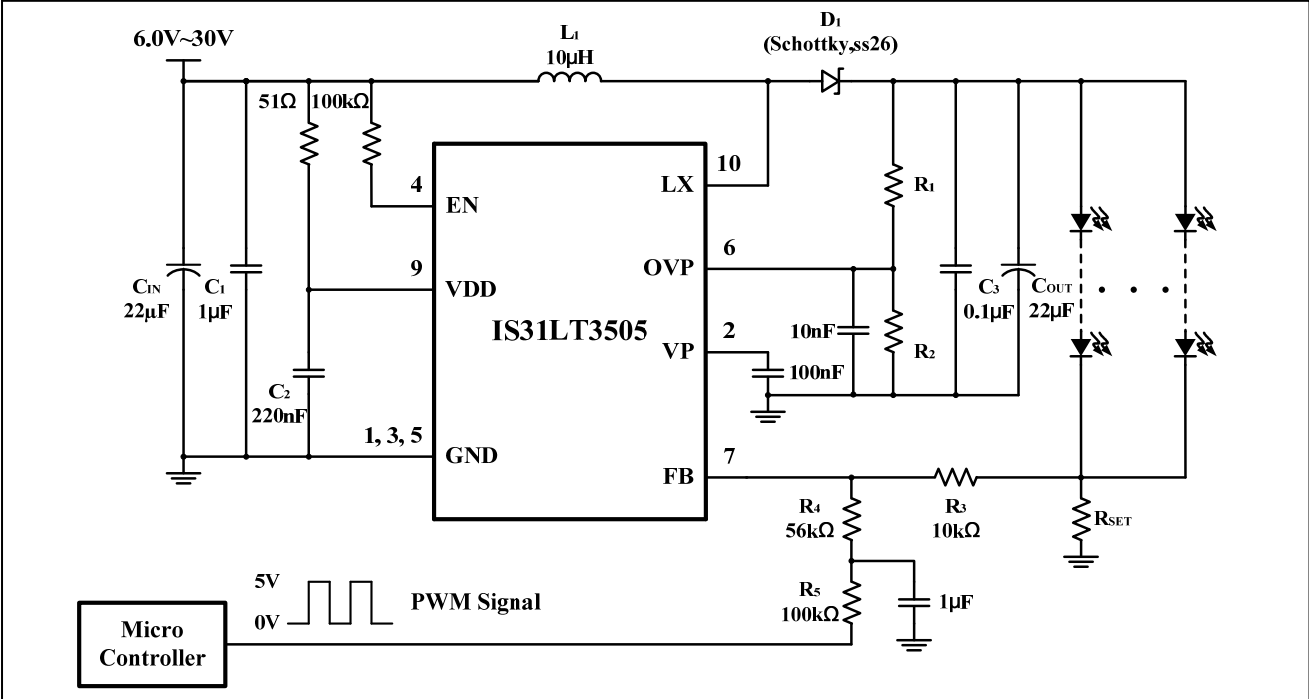

Figure 15 Application Circuit (Constant Current to Drive White LEDs With PWM Dimming)
A filtered PWM signal acts as the DC voltage to regulate the output current. The recommended application circuit is shown as Figure 15. In this circuit, the output ripple depends on the frequency of PWM signal. For smaller output voltage ripple, the recommended frequency of 5V PWM signal should be above 2kHz. To the fixed frequency of PWM signal and change the duty cycle of PWM signal can get different output current. The LED current can be calculated by the Formula (3). The internal feedback voltage  $V_{FB}$  is 0.3V (Typ.).
When it's the 5V PWM signal, the value of R3 should be 10k $\Omega$ . Refer to Figure 15.